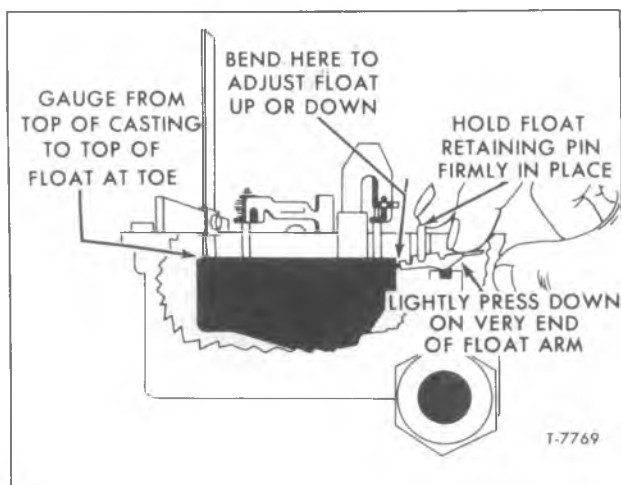

Figure 21—Float Level Adjustment (Model M)
(Refer to Fig. 21)
7. Hold float bowl retaining pin firmly in place and lightly press down on very end of float arm as shown in figure 21.